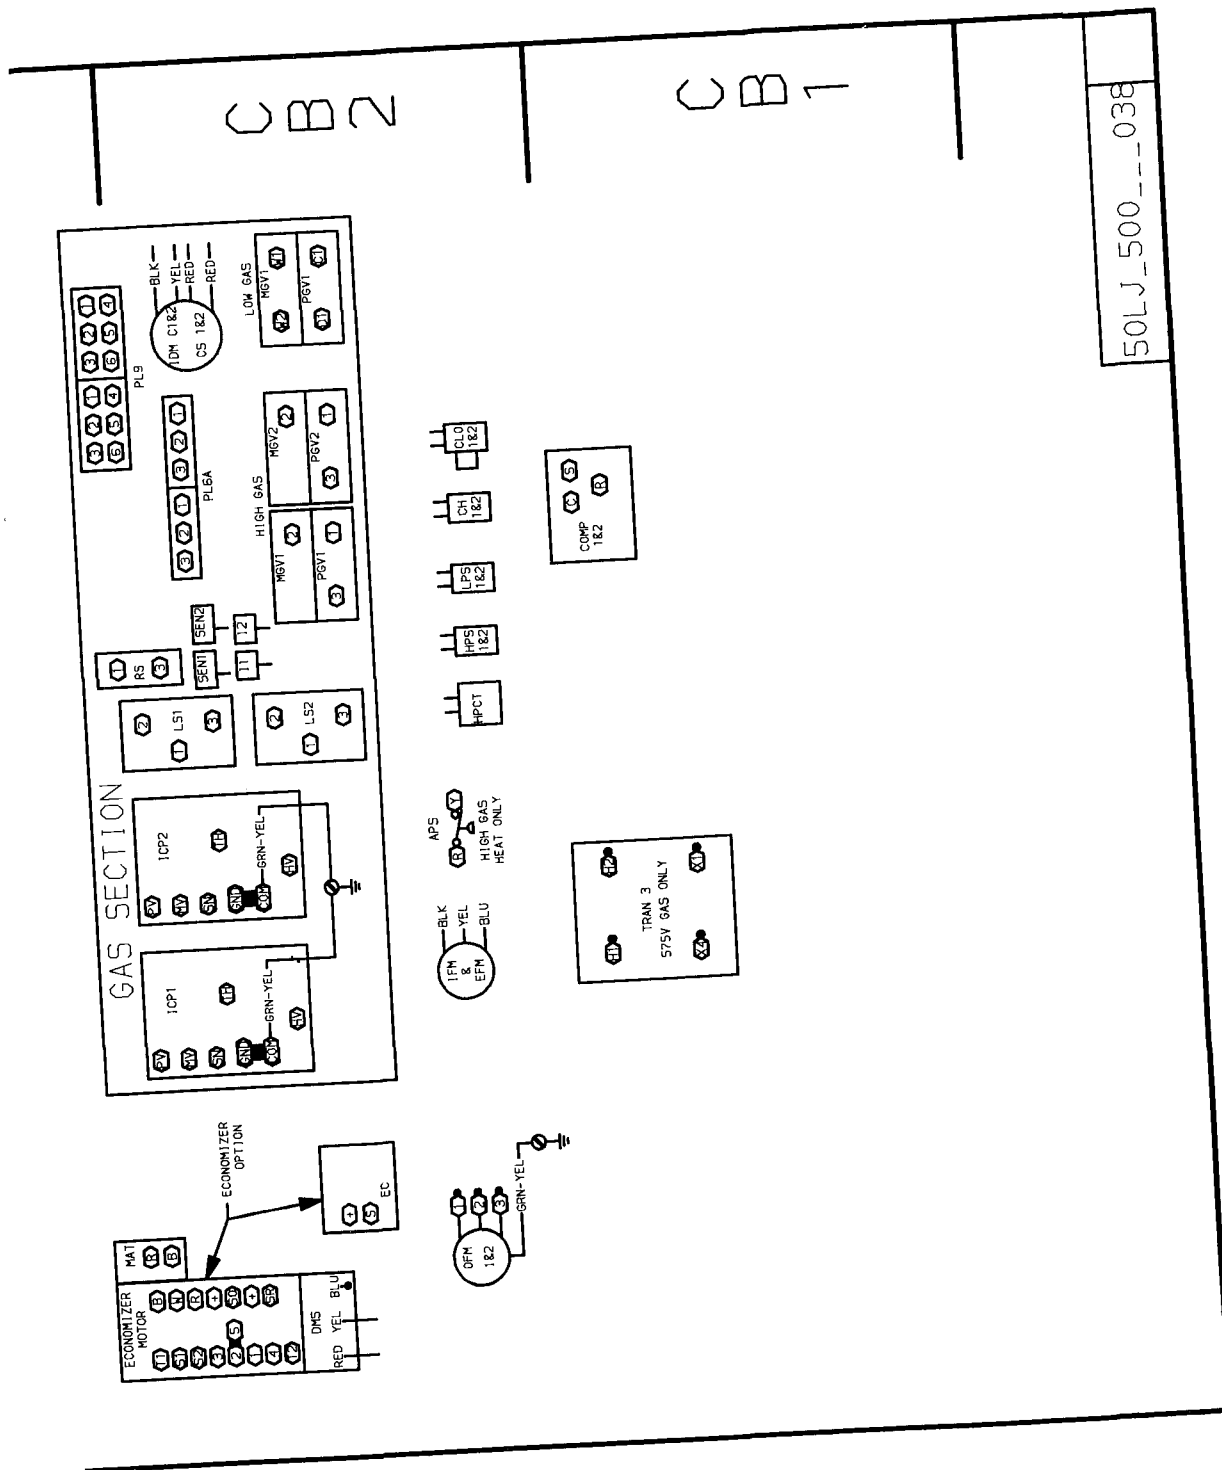

Fig. 15 — Control Box Component Arrangement,
CONTROL WIRING — Install a Carrier-approved accessory thermostat assembly according to the installation instructions shipped with the accessory. Locate thermostat assembly on a solid wall in the conditioned space to sense average temperature (where airflow is stable and thermostat is not in direct line of supply air duct). Route thermostat cable or equivalent leads of no. 18 AWG colored wire from subbase terminals to 24-volt terminal strip (PI). The terminal strip is located on the constant volume control board on units with no economizer and on the economizer board on units with the economizer option (see Fig. 15).
1. Firestat or smoke detector (field-supplied switch 1) — Remove factory-installed jumper wire and wire a field-supplied firestat or smoke detector between terminals 2 and 3 on terminal block 2 in the unit control box (see Fig. 15 for the location of terminal block 2 in the control box).
115-Volt Connection: Convenience outlet can be mounted on panel containing control circuit breakers CB3 and 4. (See Fig. 15.) Remove sheet metal cover that conceals 2-5/8 by 1-7/16 in. hole and install outlet in hole. Wire between terminals 4 and 5 on terminal block 2 in the unit control box (see Fig. 18). The convenience outlet should be ground fault protected. Convenience outlet is to be used only when the unit is not operating.